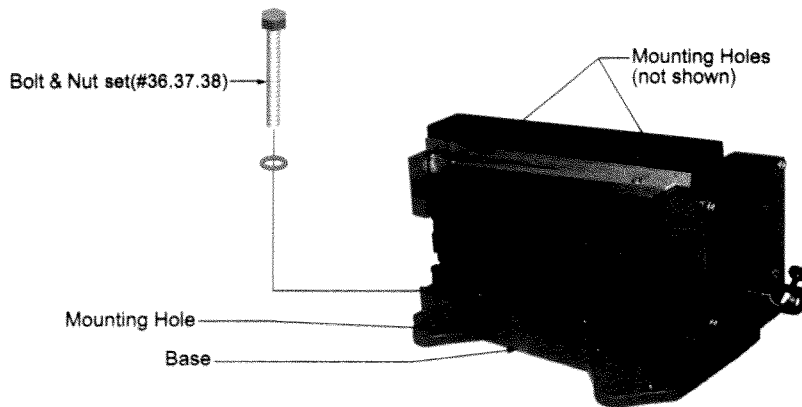

Figure1 - Mounting Shear/Brake to a Wood Workbench
- Step 5:** Insert the BOLT & NUT SET (#36.37.38) into the Mounting Holes and through the workbench as shown in Figure 1.
Step 6: Mount the Shear/Brake to the workbench. Refer to Figure 1.